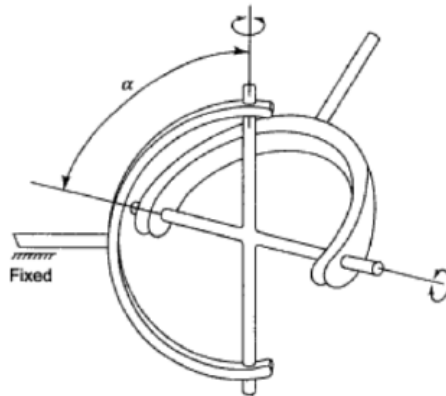

Fig. 1.10 Hooke's joint
- Hooke's joint (T) as shown in Figure 1.10